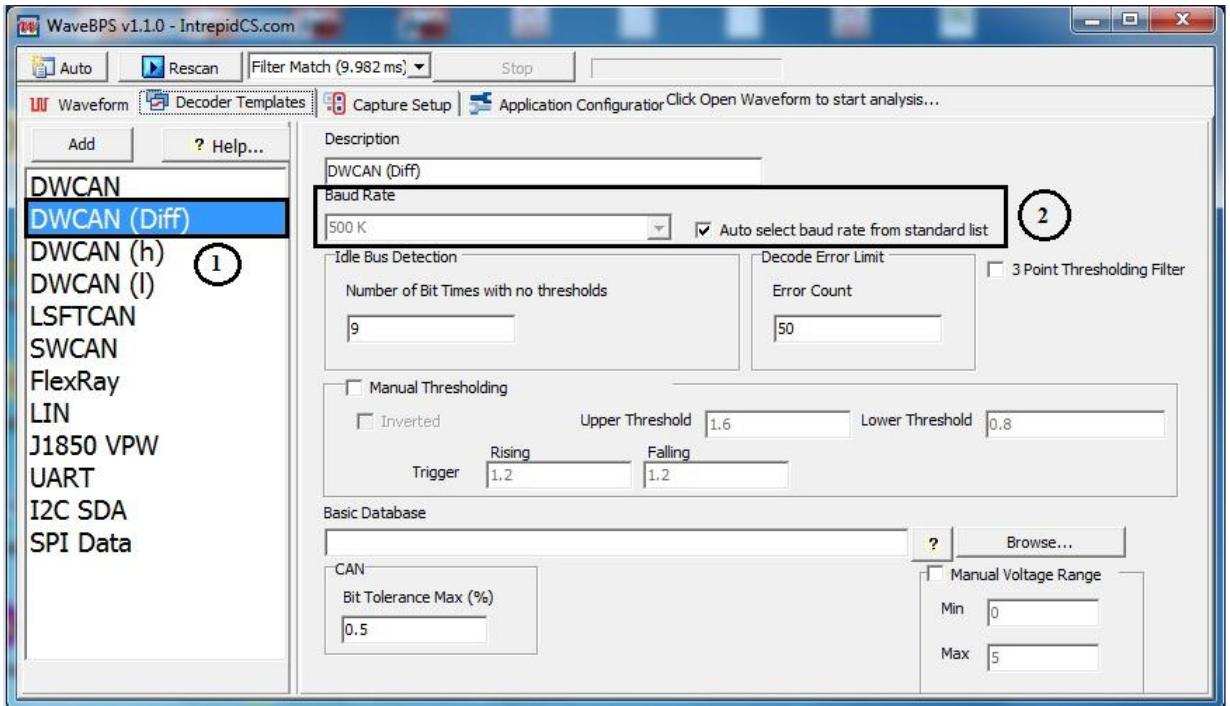

Figure 2: Select the baud rate and CAN Differential
11. Select DWCAN (Differential) for CAN as differential bus. (Figure 2 →(1))
12. Select the option 'Auto select baud rate from standard list' for baud rate. (Figure 2 →(2))